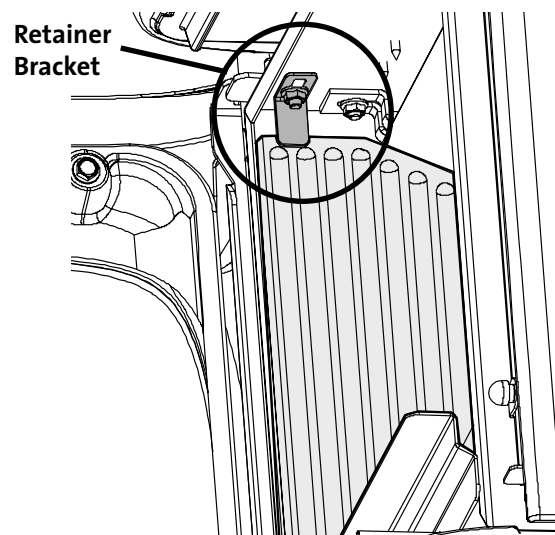

Figure 11.2. Firebox panels installation.
3. Turn the bracket head back in against the panel and **tighten the nut snug**. See fig. 11.2.